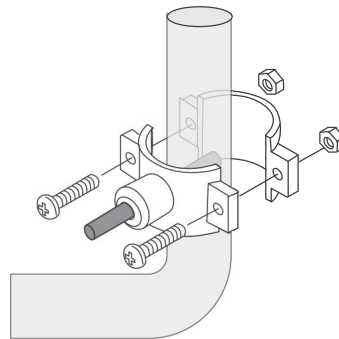
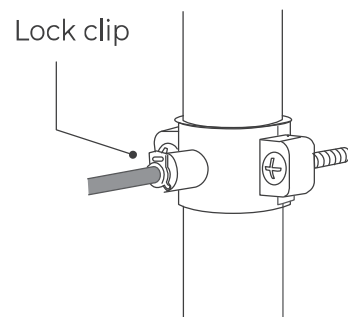

Figure 4
Figure 5
③. Slip the front plate over one end of the tubing (without a mark) and insert the red tube into the drilled hole for about 0.6" (**Figure 4**).
④. Position the back plate on the drainpipe by tightening the screws and nuts evenly while leaving the tubing in the hole.
⑤. Pop the lock clip onto the fitting to secure the connection (**Figure 5**).